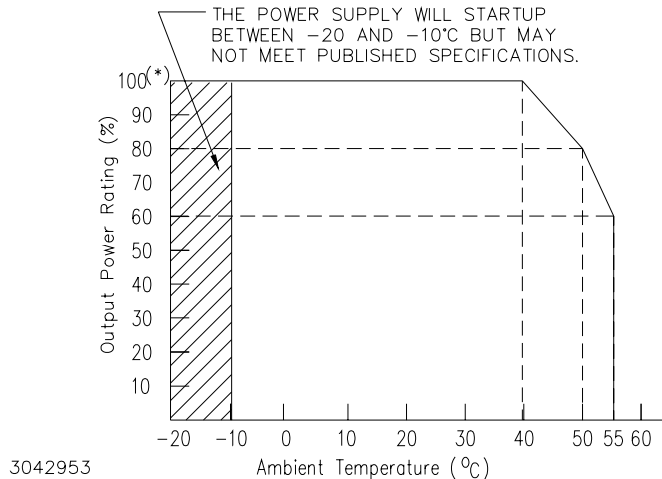

FIGURE 2. POWER RATING VS. TEMPERATURE
- (1) **M Models only:** To adjust output voltage down to approximately 0V use external voltage source or resistance (see PAR. 3.4.2). Refer to Table 4 for minimum conditions required to maintain proper operation of alarm relay, meter and visual LED indicator.
- (2) If the visual LED indicator is powered from the HSF output (see PAR 3.4.3), refer to Table 5 for minimum conditions required to maintain functionality of the indicator.
- (3) Using trimpot to attain voltages outside the specified adjustment range may trigger undervoltage (PAR 3.7.4) or overvoltage (PAR 3.7.1) faults. Recovery is by removing, and after approximately 40 seconds, reapplying AC input power or by reset (open and close) at ±RC terminals (no delay).
- (4) See Figure 2 for power derating.
- (5) Square type. Output voltage returns automatically only if cause is removed within 30 seconds (see PAR. 3.7.2).
- (6) When overvoltage is detected, output is shut OFF. Recovery is by removing, and after approximately 40 seconds, reapplying AC input power or by reset (open and close) at ±RC terminals (no delay).
- (7) Ripple and noise levels above are satisfied when conditions are 0 to 100% load, 0 to 40°C (load is derated from 40 to 55°C, see Figure 2), and bandwidth ≤ 100MHz.
- (8) Range shown is operating range; minimum range upon startup is 0.5V higher than minimum operating range shown.